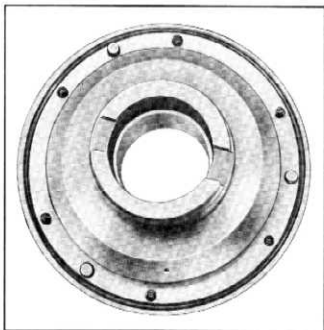

Fig. 78—Install "O" Ring Seal in Pump Hub
9. Install new "O" ring seal in groove of pump hub (fig. 78).